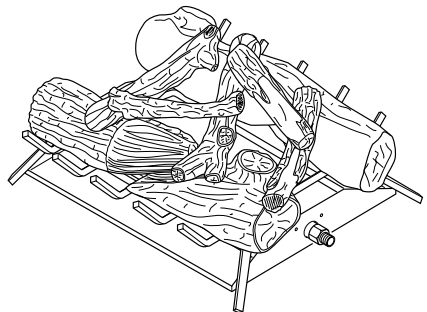

Figure 10 - Placement of Top Logs
3. Place smaller top logs onto bottom logs (see Figure 10). Leave as much open space between logs as possible to minimize flame impingement and sooting.